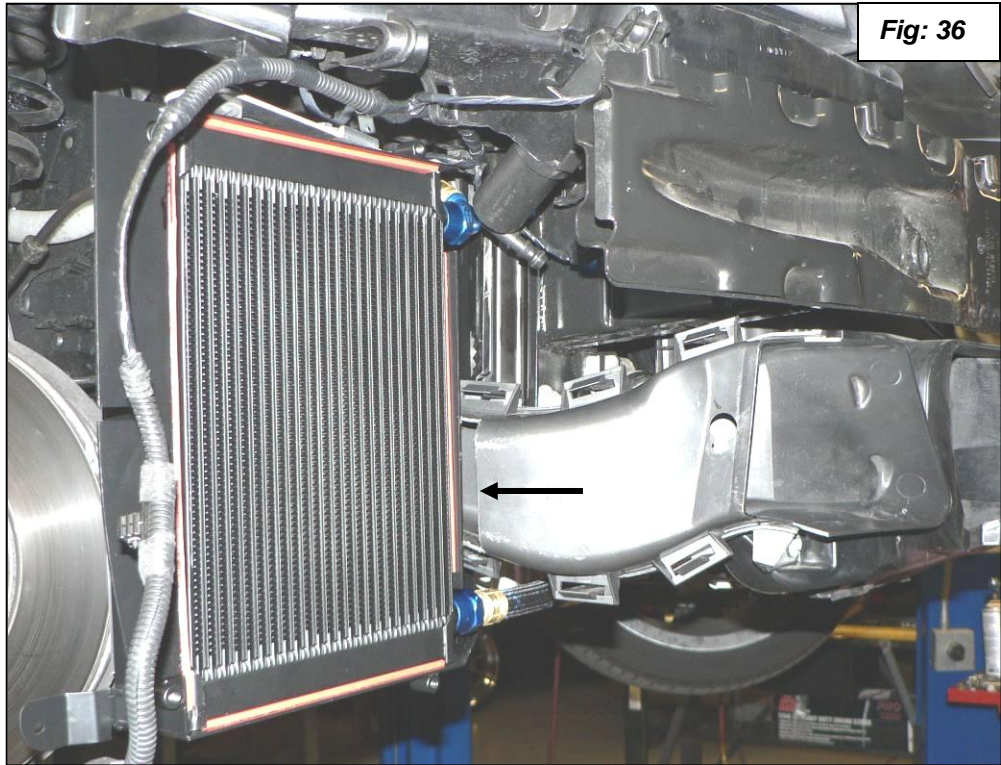

Fig: 36
41. Install the modified brake duct and check for clearance. With the oil cooler in a relaxed position you should have about $\frac{1}{2}$ " clearance as shown in **figure 36**.